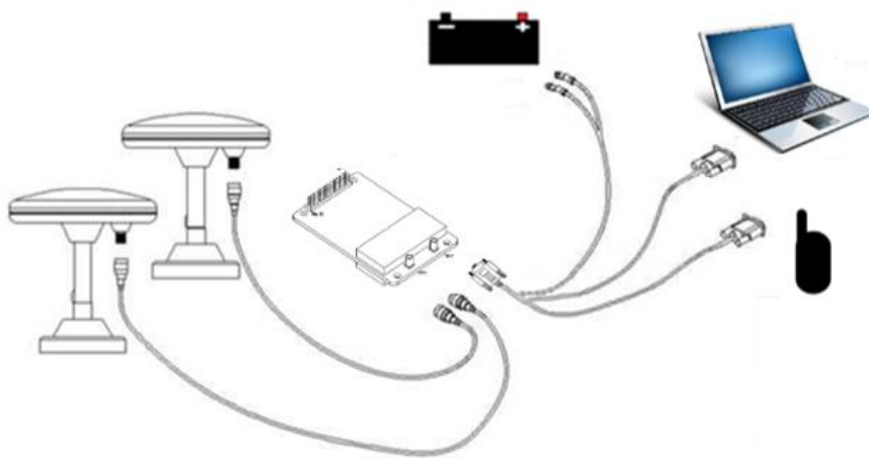

Figure 4-4 CLAP-B7 Connection Diagram
3. Connect the CLAP-B7 board to the two measuring antennas through antenna cables according to Figure 4-4, and connect to the serial port and differential radio (or other differential link) of the laptop through the data cable.